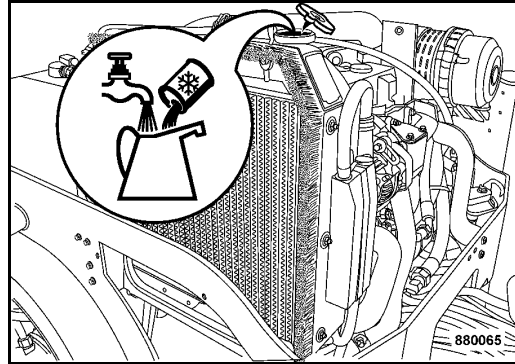

Fig. 175
- Fill in coolant until the level reaches the bottom edge of the filler socket (Fig. 175).